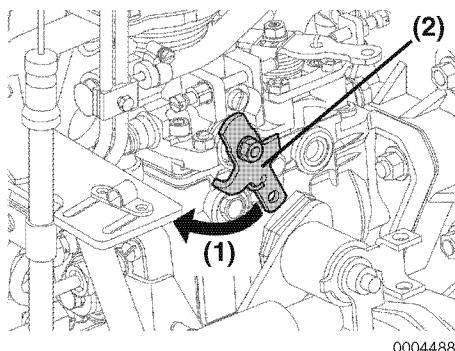

Figure 6
If the engine cannot be shut down by the stop switch on the panel, stop the engine by moving the stop lever (**Figure 6, (2)**) by hand to the left (**Figure 6, (1)**). The lever is attached to the fuel injection pump.